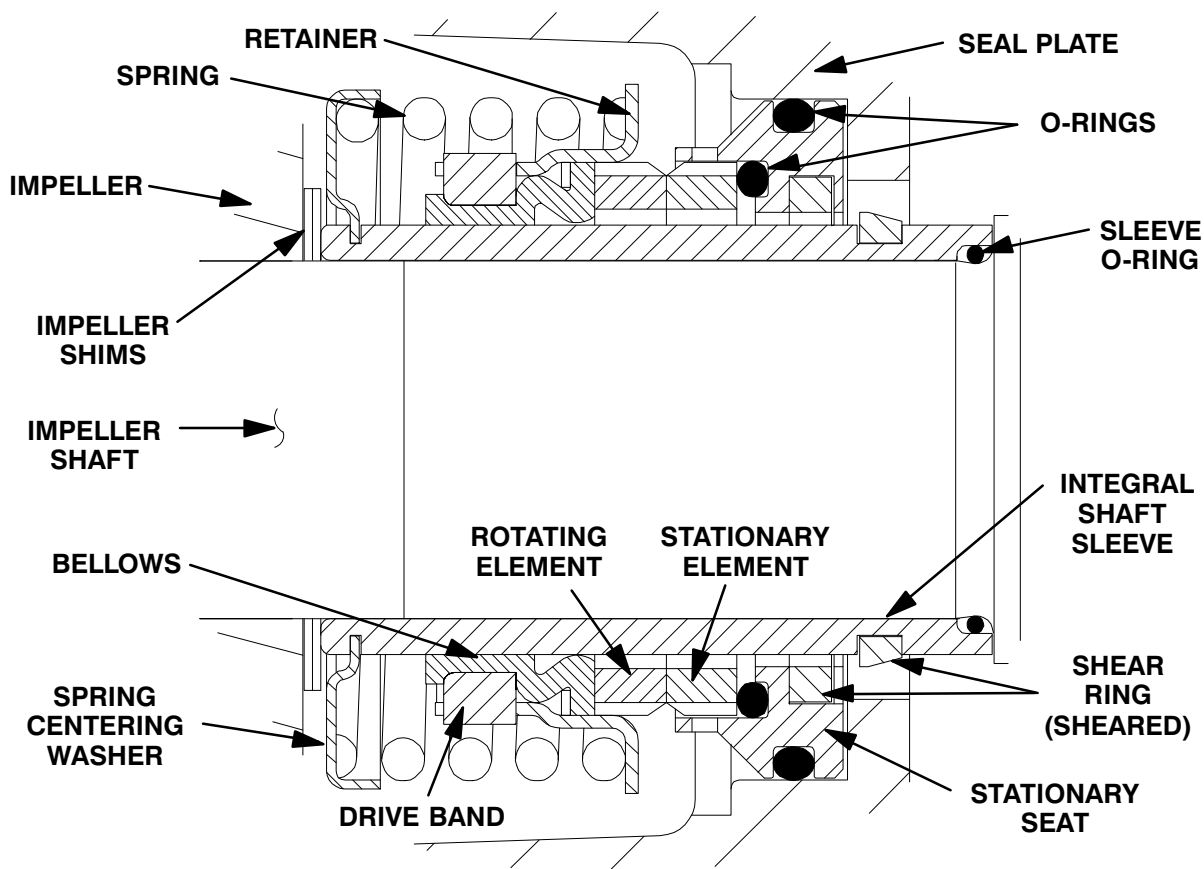

Figure 9. Seal Assembly
To ease installation of the seal, lubricate the shaft sleeve O-ring (14) and the external stationary seat O-ring with a very **small** amount of light lubricating oil. See Figure 9 for seal part identification.